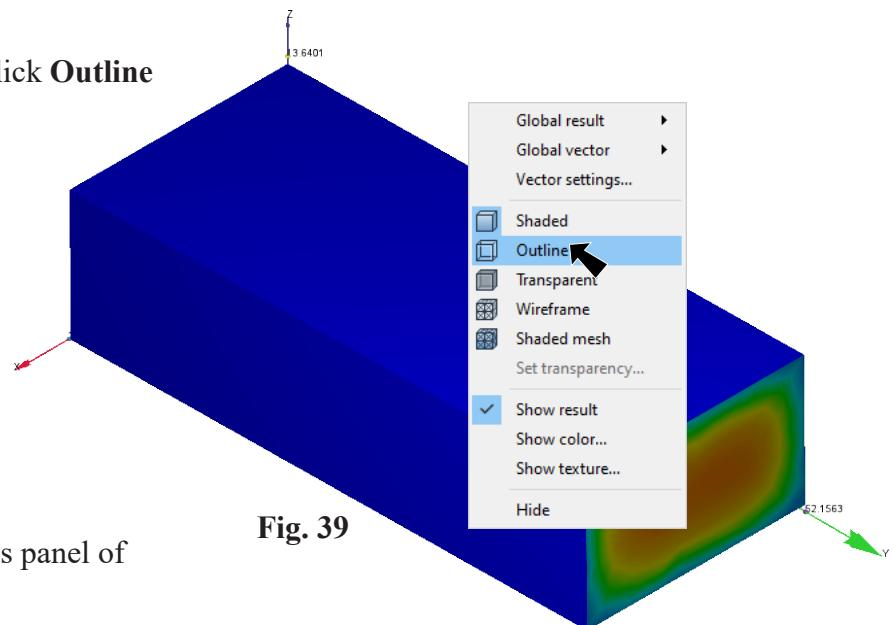

Fig. 39
Step 1. Right click the Tunnel and click **Outline** from the menu, Fig. 39.